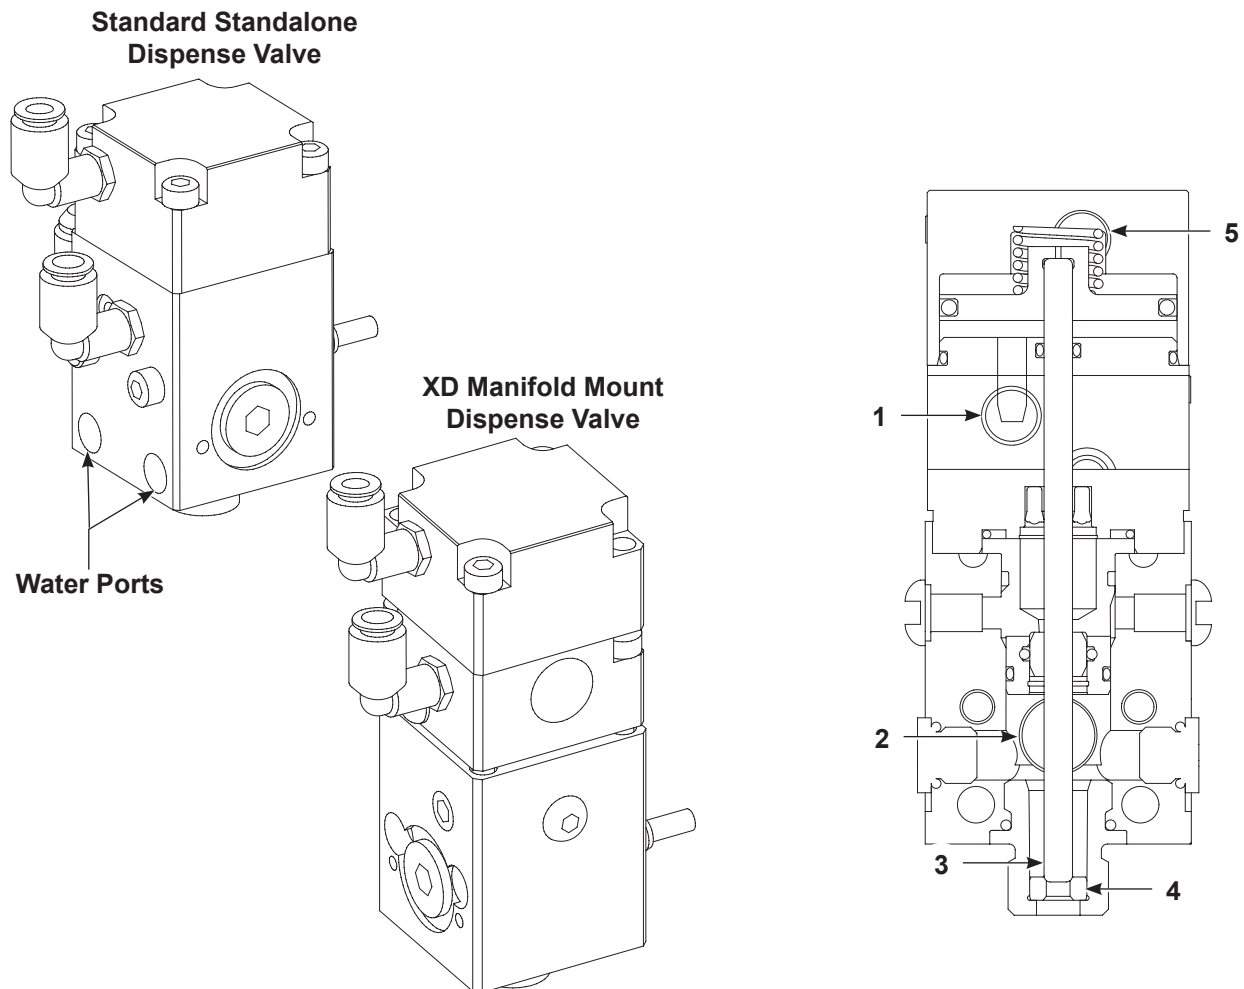

Figure 1 Typical Auto-Flo II Classic Dispense Valve
See Figure 1. The Auto-Flo™ II Automatic Dispense Valve is used in a variety of applications to dispense adhesives, sealants, and other materials. Made of aluminum, the valve is lightweight and versatile.
See Figure 1. When air is supplied to the valve-open air inlet (1), the piston is pushed upward, pulling the piston stem (3) off the seat (4). Material flows into the material inlet (2) and out of the nozzle.